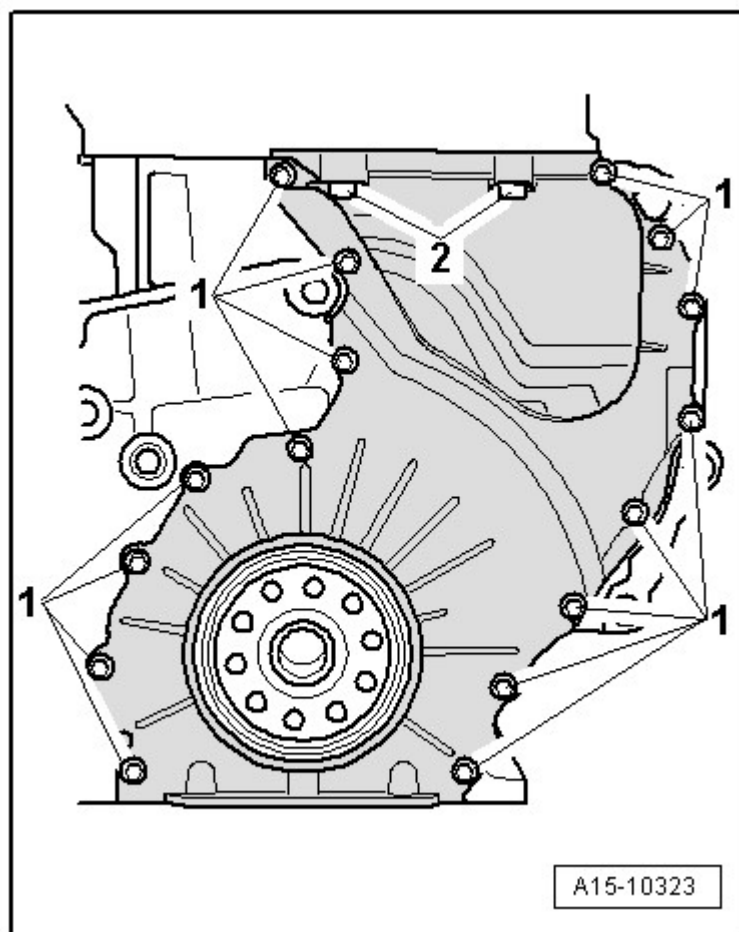

Fig. 2: Identifying Sealing Flange Bolts
- Tightening sequence **Fig. 2**